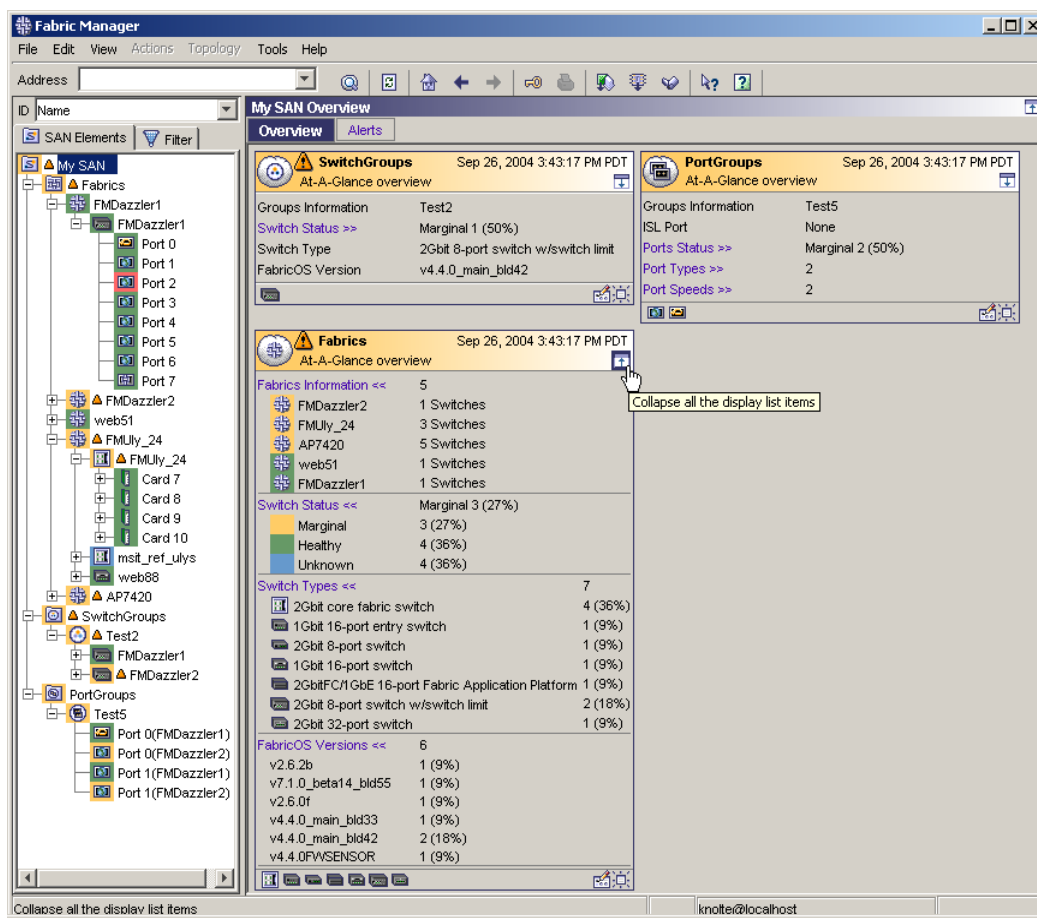

Figure 58 Fabric Manager home window (SAN node At-A-Glance)
- Status of critical fabric elements and key discovery data at varying levels of detail, such as high-level At-A-Glance views (see Figure 58), and detailed tables that display information about switches, ports, devices, and events. Table 8 provides a summary of the home window.
View selector bar	Each SAN element you select has different views available to help you monitor their status. The view selector bar (see Figure 59 on page 78) provides access to each available view for the element you have selected. The views available for the selected SAN element mirror the views available via the View menu (see "View menu" on page 78). You can view () or hide the view selector bar using the appropriate view selector icon. In Figure 58 on page 72, with the SAN Node selected within the SAN Elements tab, only the Overview and Alerts views are available. See "View menu" on page 78 for a description of each view type.
Overview view	The Overview view for your SAN Node is displayed in Figure 58 on page 72. The Overview view also includes At-A-Glance views for all the elements in your SAN, including one for your Fabrics, Switches, Ports, Port Cards, SwitchGroups, and PortGroups. See "Overview view" on page 80 for additional information about the Overview view and its embedded At-A-Glance views.
Footer information	<ul style="list-style-type: none">• The default information displayed in the bottom left corner of the GUI corresponds to the number of items within the selected SAN Element. This information changes if you move your cursor over GUI elements and perform specific tasks (for example, if you move the cursor over the  icon in the Fabrics At-A-Glance overview within Figure 58 on page 72, the informational display changes from 3 items to Collapse all the display list items.• The username and domain location are displayed in the bottom-right portion of the GUI. For example, Figure 58 on page 72 displays knolte@localhost.
Home	Navigation icon: Returns to the view that appeared when you opened Fabric Manager (see Figure 58 on page 72).